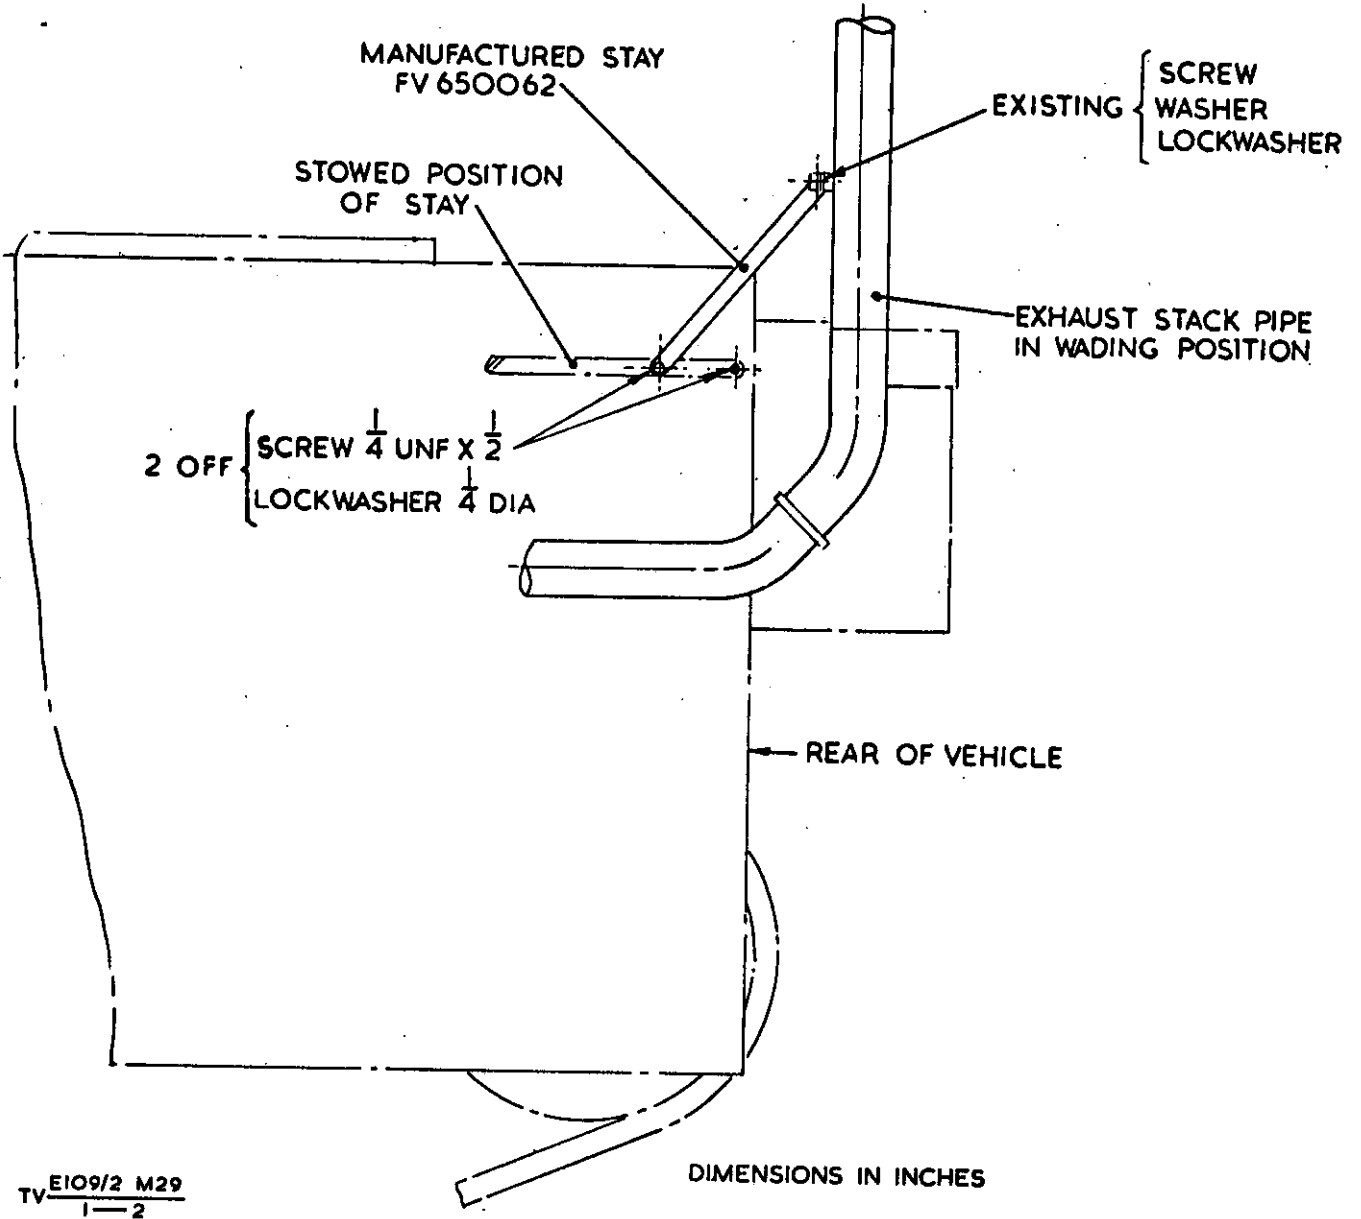

Fig 2 - Strut - assembly
d. See Fig 2. Fit (to check) and stow the manufactured strut (FV 650062) to vehicle as shown, using the two 1/4 in. UNF screws and lock washers, listed in para 4 and retained 3/8 in. UNF screw, plain and lock washer as shown.